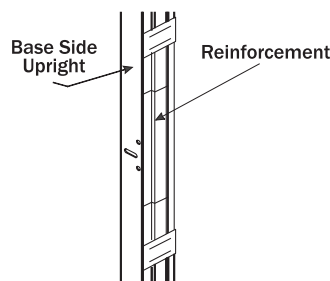

Fig. 16
- 2 Expose double face tape by removing paper backing on two strips of tape (Fig. 15) and press into position to secure the sleeve to the frame (Fig. 16).